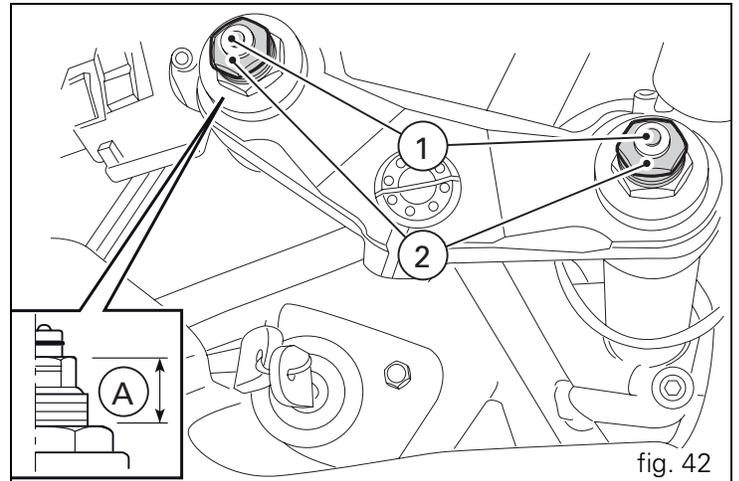

fig. 42
- 1) to adjust rebound damping (fig. 42);
- 2) to adjust inner spring preload (fig. 42);
Spring preload (A, fig. 42): 18 mm.
To change the spring preload for each fork leg, turn the adjuster (2, fig. 42) with a 22 mm hex wrench.